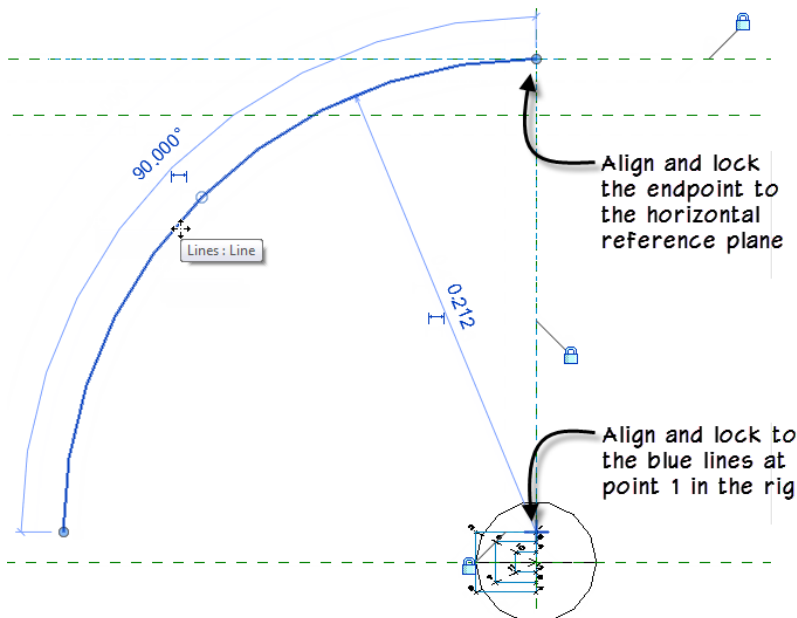

FIGURE 8—ALIGN AND LOCK THE ARC AT THE CENTER POINT AND THE FIRST ENDPOINT
8. Zoom back out. Align and lock the endpoint at the top of the arc to the horizontal reference plane (see Figure 8).